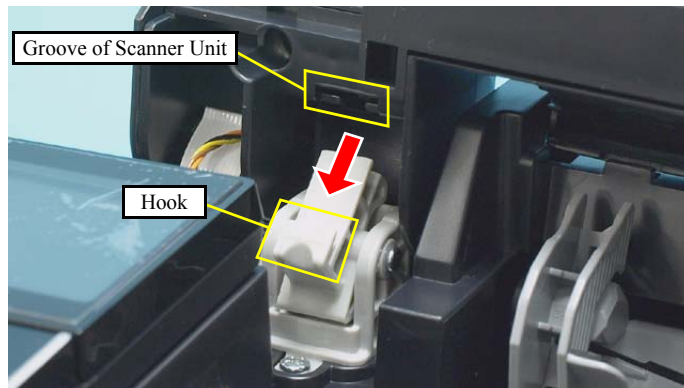

Figure 4-11. Installing the Scanner Unit
- When installing the Scanner Unit, engage the groove of the Scanner Unit with the hook of the Hinge as shown in Figure 4-11.